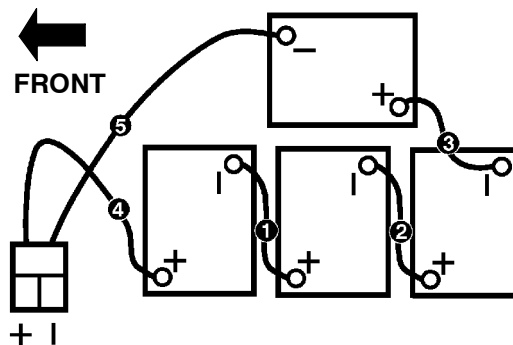

FIG. 3
3. Carefully install batteries into compartment and arrange battery posts as shown (Figure 3).
5. Connect cables to battery posts in numerical order as labeled, RED TO POSITIVE & BLACK TO NEGATIVE (Figure 3).